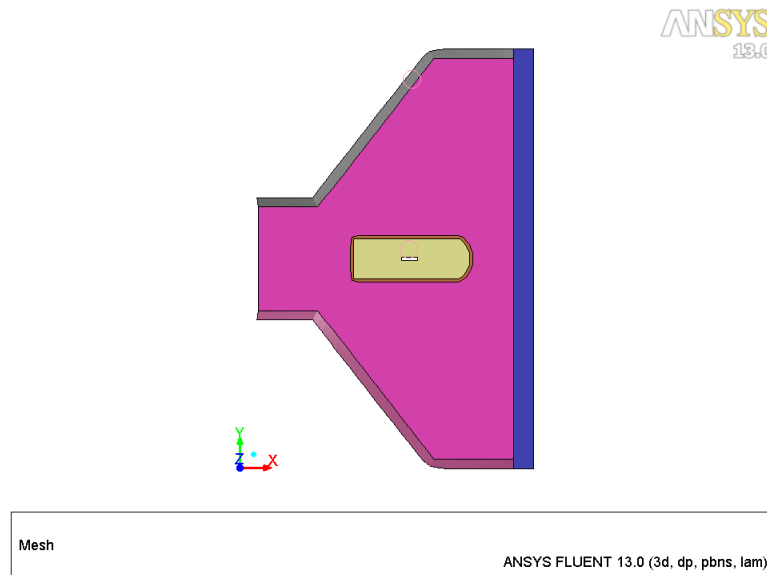

Figure 3: Points for Rake Creation
- (d) Right-click on the graphics window to define two end points of the rake as shown in the Figure 3.